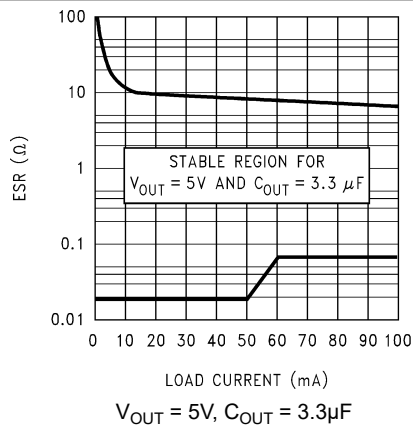
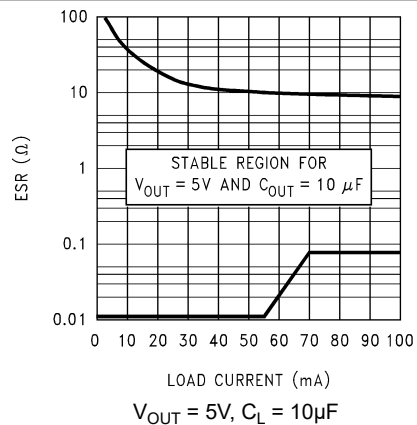
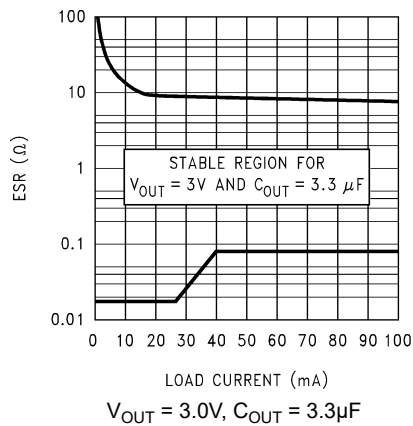
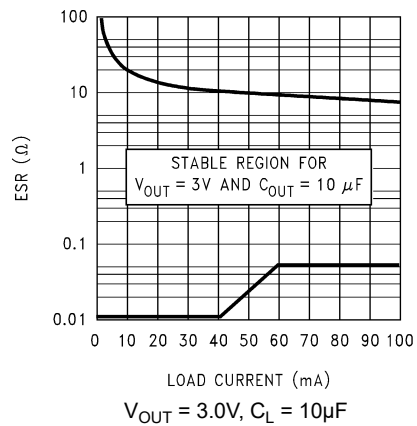

Figure 7-3. 5V, 3.3 μ F ESR Curves (Legacy Chip)
Figure 7-4. 5V, 10 μ F ESR Curves (Legacy Chip)
Figure 7-5. 3.0V, 3.3 μ F ESR Curves (Legacy Chip)
Figure 7-6. 3.0V, 10 μ F ESR Curves (Legacy Chip)
The output capacitor must meet both the requirement for minimum amount of capacitance and equivalent series resistance (ESR) value. Curves are provided that show the allowable ESR range as a function of load current for various output voltages and capacitor values (see Figure 7-3, Figure 7-4, Figure 7-5, and Figure 7-6).
- ESR range: See Figure 7-3, Figure 7-4, Figure 7-5, and Figure 7-6.